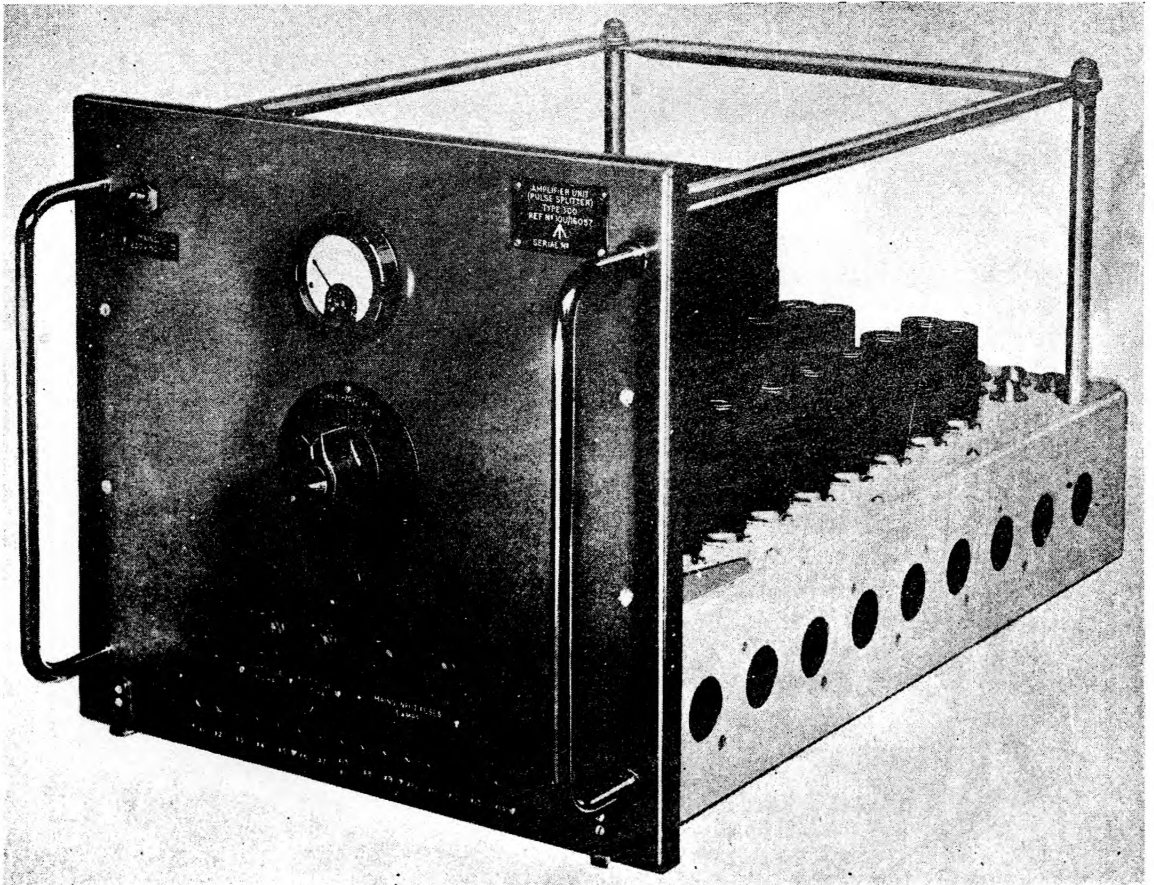
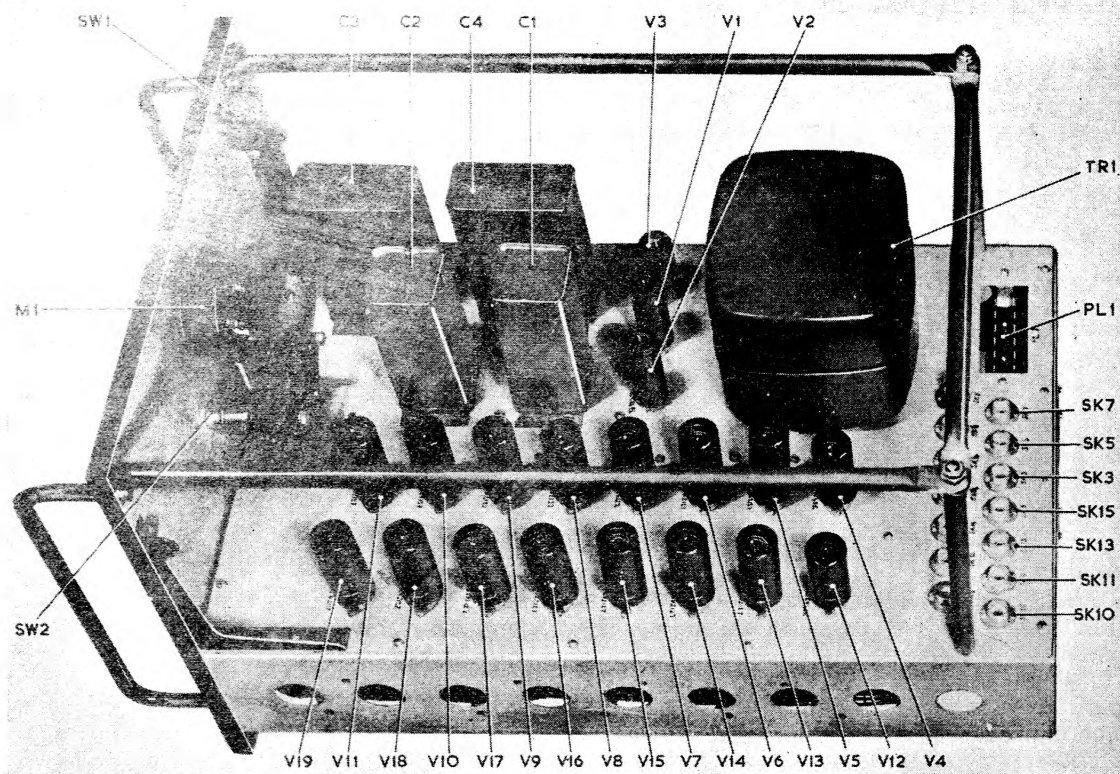

Fig. 1. Front panel
Fig. 2. Plan view
3. The unit derives its power supplies from the 230V AC mains, this being taken into the unit by a Jones plug at the rear. Fig. 1 shows a front view of the unit; top and underside views are given in fig. 2, 3 and 4. A circuit diagram is shown in fig. 5.